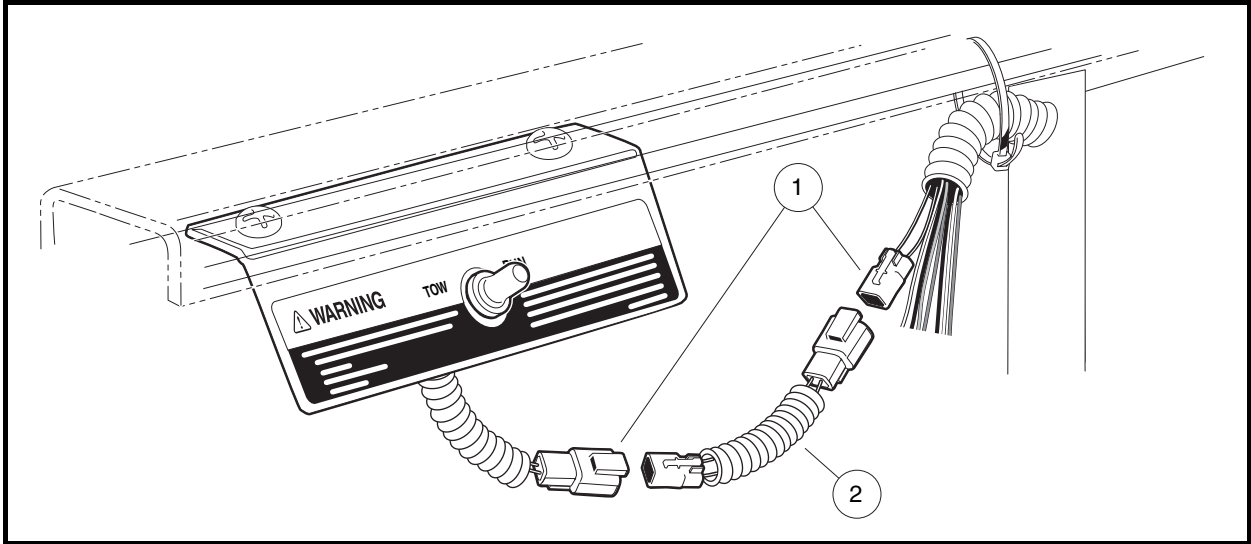

Figure 13-12 Install IQ System Main Dropout Harness
1. Disconnect the two-pin connector (1) at the Tow/Run switch (**Figure 13-12, Page 13-15**).
2. Connect the IQ main dropout harness (2) between each end of the two-pin connector.